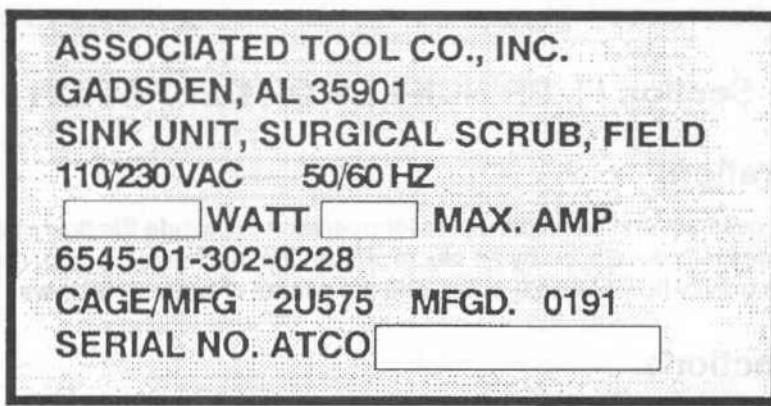

Figure 1-4. Control box data plate.
- (a) Identification information as provided on the data plate located on the control box cover is shown in figure 1-4.